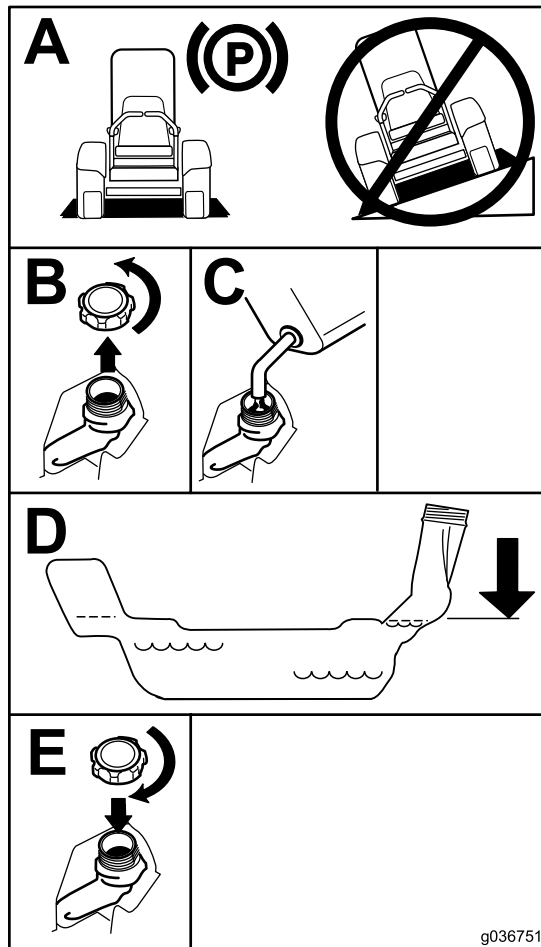

Figure 9
5. Fill the fuel tank until the fuel gauge reads at the full mark (Figure 9).